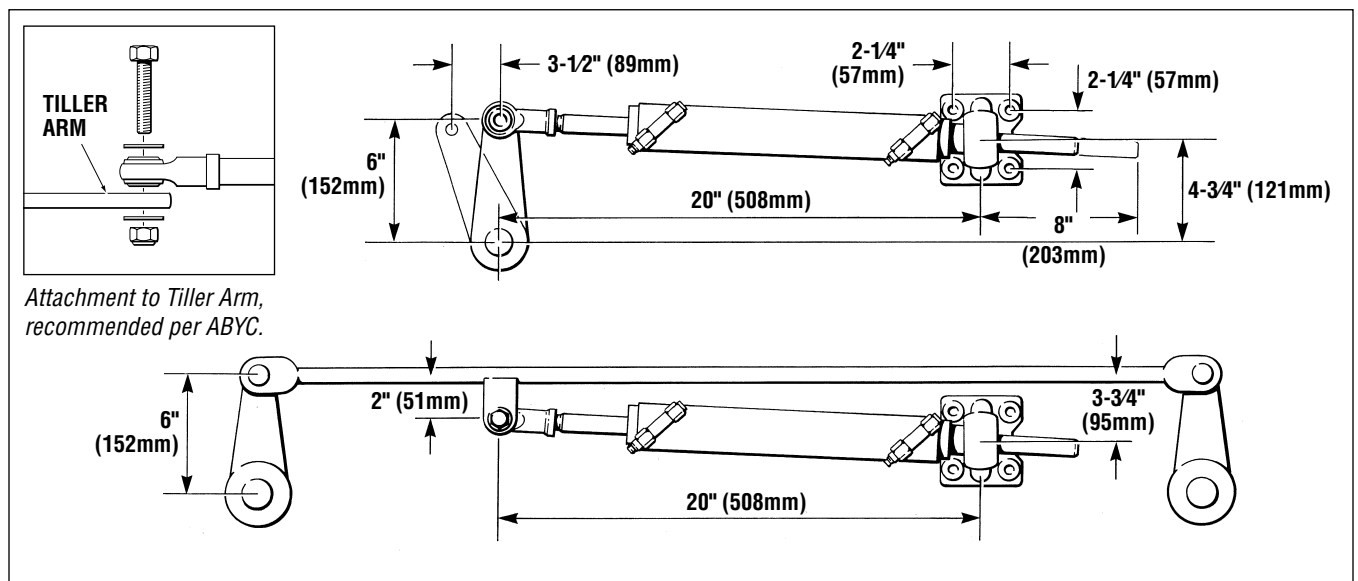

Figure 3.
- 4. Extend cylinder rod to arrive at 20" (508 mm) from center of rod end ball joint hole to the center of the mounting foot, (as shown in figure 3 below).